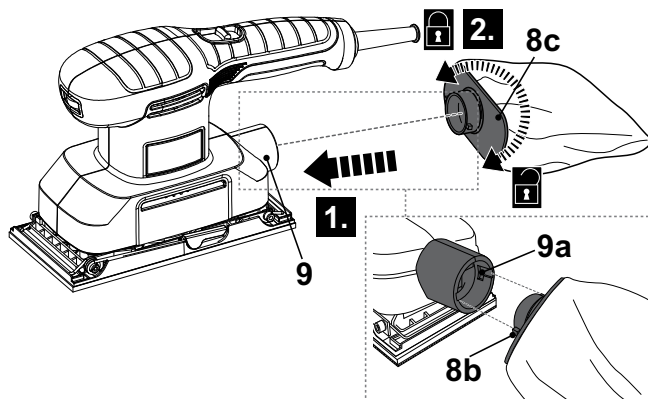

Fig. 9
- > Align the tongues (8b) with the grooves (9a) and then insert the dust bag connector (8c) into the dust extraction outlet (9) all the way to the stop (Fig. 9, step 1).
- > Turn the connector (8c) clockwise to secure it in place (Fig. 9, step 2).
- > Turn the connector (8c) anticlockwise and remove the dust bag assembly (8).